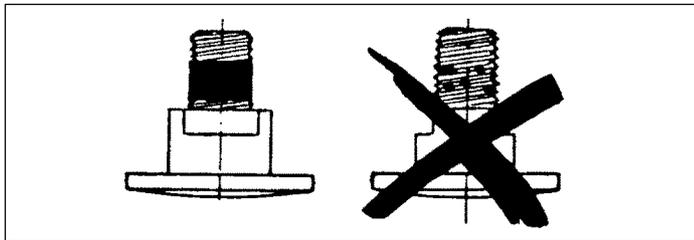

Fig. 22
- the **self-braking layer** of the fixing screw is missing or has become too worn (it is advisable to change the screw after it has been tightened 5 times), (fig.22).